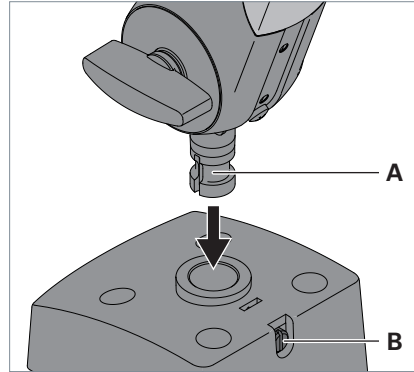

Fig. 2: Mounting the light to the fastening element.
- ▶ Insert the stud **A** on the light support into the opening of the fastening element, see Fig. 2.